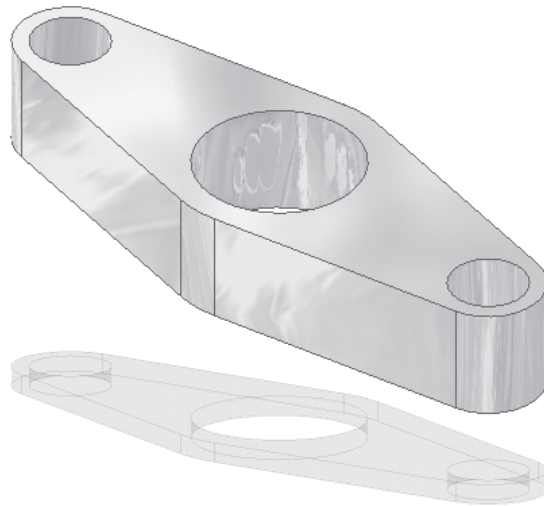

Figure 3-65 Model with the X-ray ground shadow
2. Choose the **X-Ray Ground Shadow** button from the flyout; the X-ray ground shadow will be displayed, as shown in Figure 3-65.